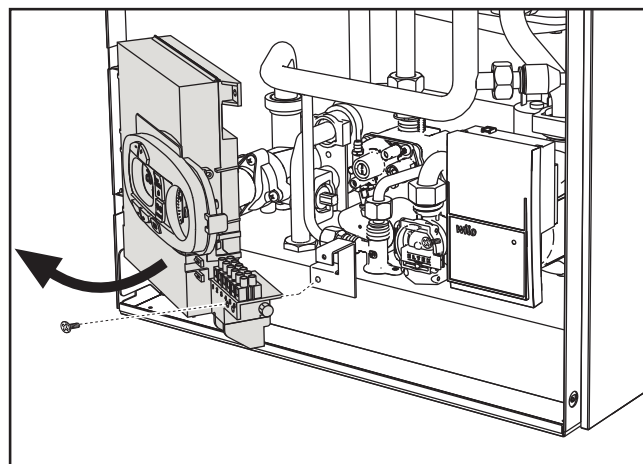

fig. 21
2. Undo the screw and rotate the control panel (see fig. 21).